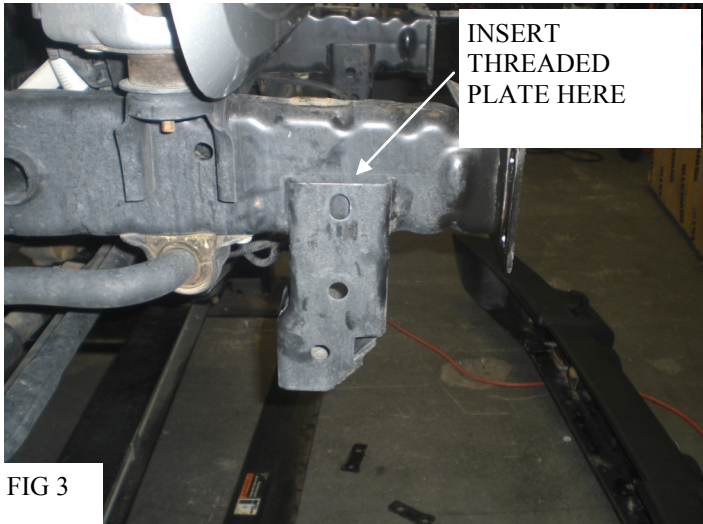

FIG 3
4. Locate the two threaded plates and place them in the frame channel shown in FIG 3.